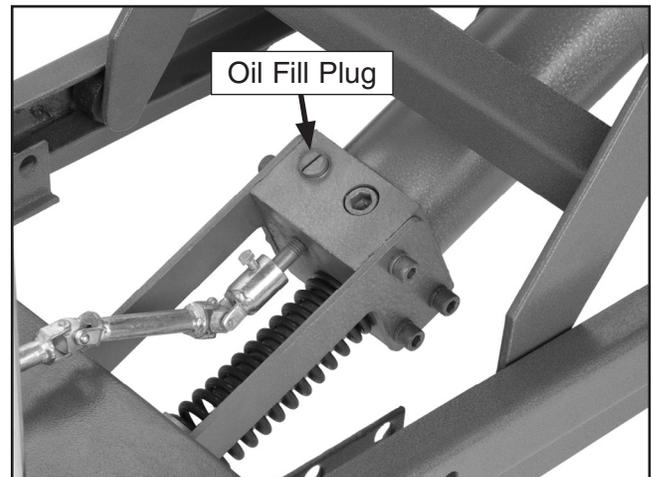

Figure 4. Oil fill plug.
1. Set the brakes and raise the table until you have comfortable access to the oil fill plug located on the hydraulic pump body, as shown in **Figure 4**.